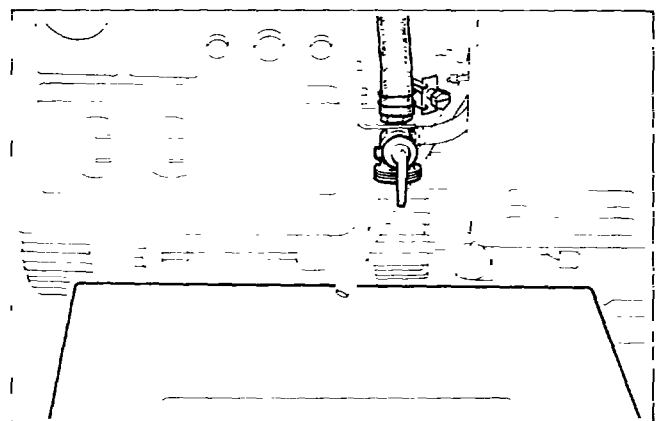

Fig. 10-2
(2) Discharge the fuel. Close the fuel strainer, remove the cap, place some vessel for gasoline under the strainer, and open the strainer to discharge the fuel. (See Fig. 10-2)	Absolutely no smoking. Use a vessel large enough to receive the remaining gasoline.